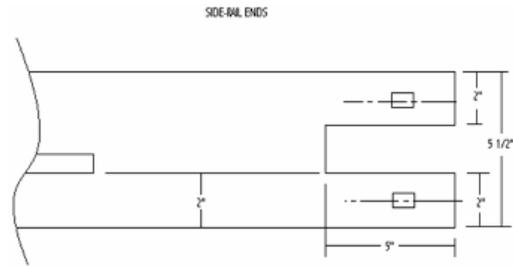

FIGURE 7
2. Take one of the two 1"x6"x80" boards and lay it out according to figure 7. Be sure to layout the 2" tennons from each side rather than measuring from one side. The 2" is more important than the center in this case. Like the rails in step two, the ends have tennons, only two at each end this time. Repeat for all four ends on the two boards.